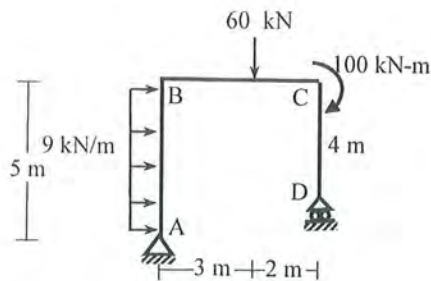

Fig.2
2. Draw the axial force, shear force and bending moment diagram for the frame shown in **Fig.2**. [14]